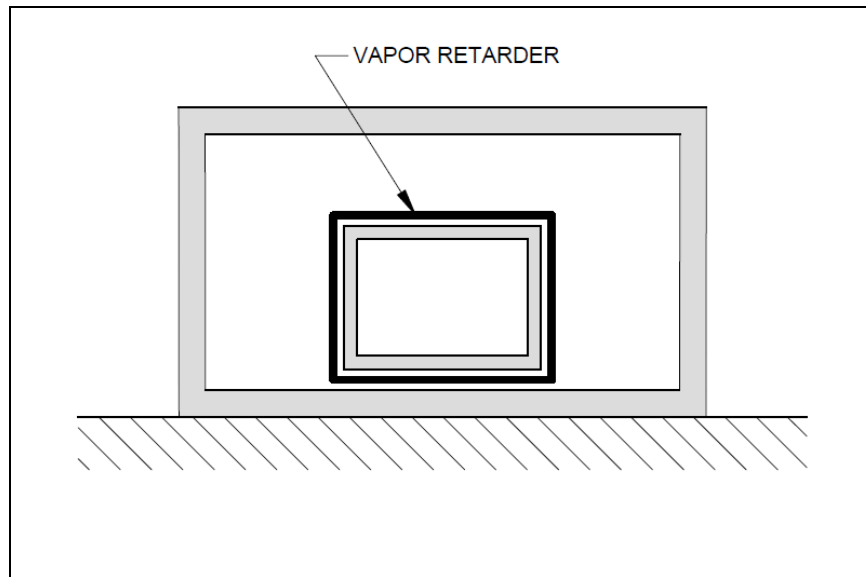

Figure 4: Conceptual Diagram of "Building-In-A-Building Method"
**Building-In-A-Building Method:** This method entails constructing a cold storage structure within a building's enclosure, i.e., a building within a building. The insulation and vapor retarder system then may be applied to the outside of the inner structure's envelope. See Figure 4 for a conceptual depiction of this method.